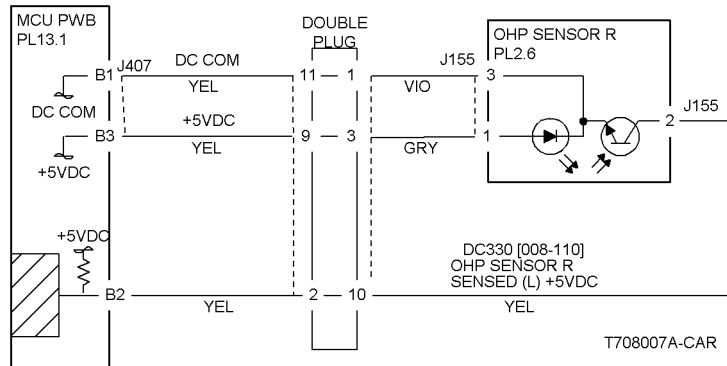

Figure 1 The OHP Sensor R
Press Stop. Check the circuit of the OHP Sensor (Figure 1). Refer to the OF 99-1 RAP for troubleshooting procedure.
- Ensure that the connectors shown in the circuit diagram (Figure 1) are securely connected and that the wires are not damaged.